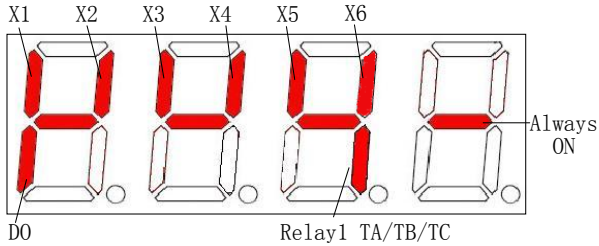

Fig. 5-12-1 Terminal Status Indication
- ◆ The terminal status information includes the status of the multifunctional terminals X1~X6, two-way open collector output terminals D0, and output relay 1. The status of the function terminals is indicated by ON/OFF of the specified segment of an LED digital tube. If the digital tube segment is on, it indicates that the status of the corresponding terminal is in the effective status; if it is off, it indicates that the status is the ineffective status. There are four constantly-on segments with the digital tube to facilitate observation. It is showed as in Fig. 5-12-1: